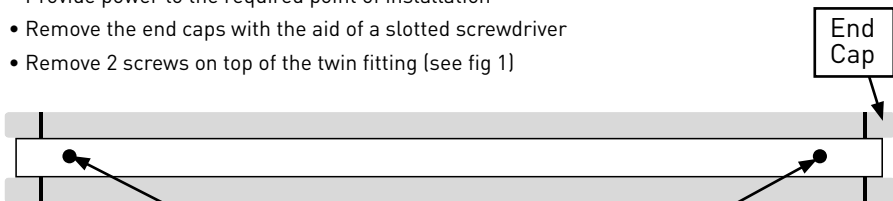

Fig 1 Twin fitting
- Remove 2 screws on top of the twin fitting (see fig 1)